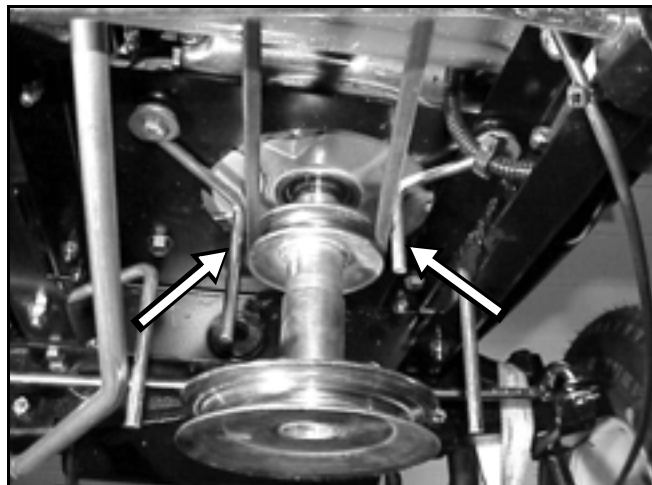

Figure 75
5. Loosen the right and left belt guides located on each side of the engine drive pulley (Figure 75).